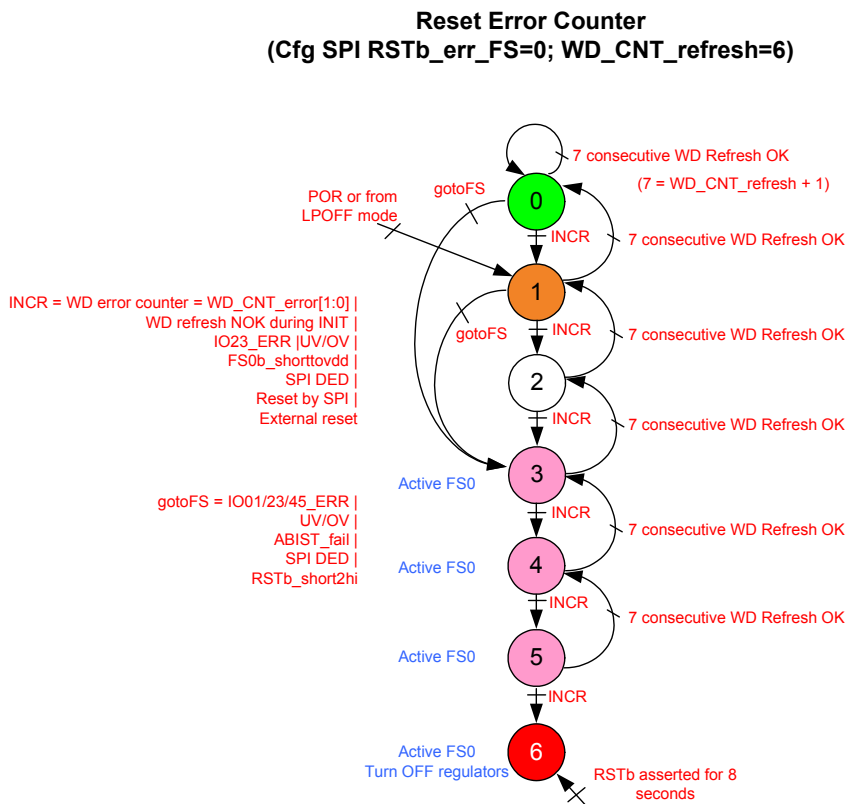

Figure 16. RSTB Error Counter (RSTB_err_FS = 0)
- RSTB_err_FS = 0 / Intermediate = 3; Final = 6 (Figure 16). When reset error counter reaches 6, the device goes into deep reset and fails.